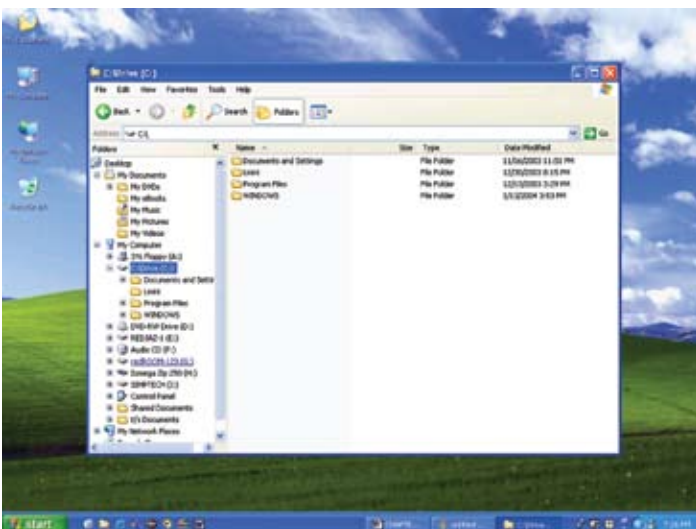

Figure 2.5
- Your file manager dialog box appears. (See figure 2.5)